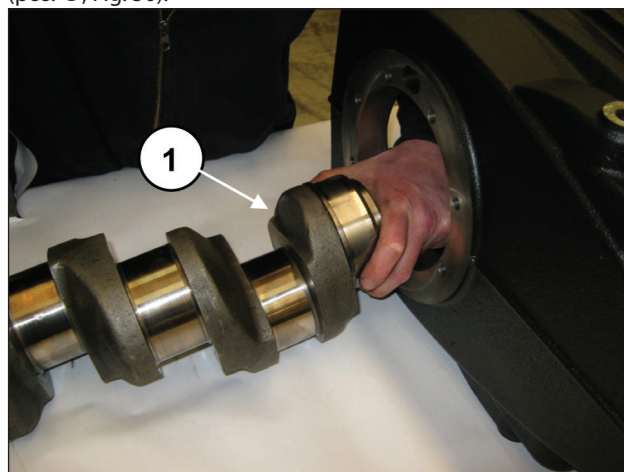
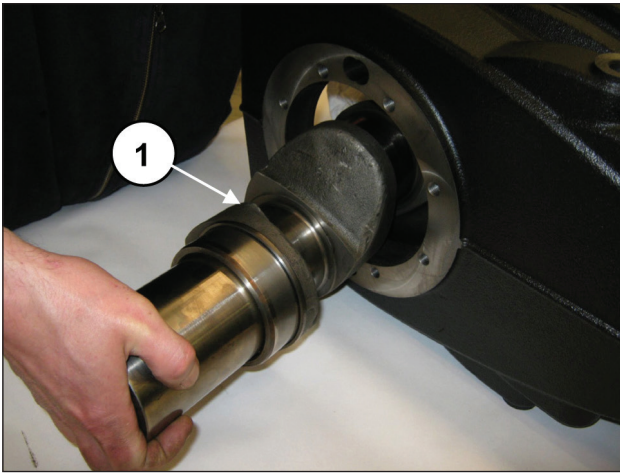

Fig. 49
Fig. 50
Insert the shaft from the PTO side, taking care not to hit the previously assembled con-rod shanks (pos. ①, Fig. 49) and (pos. ①, Fig. 50).